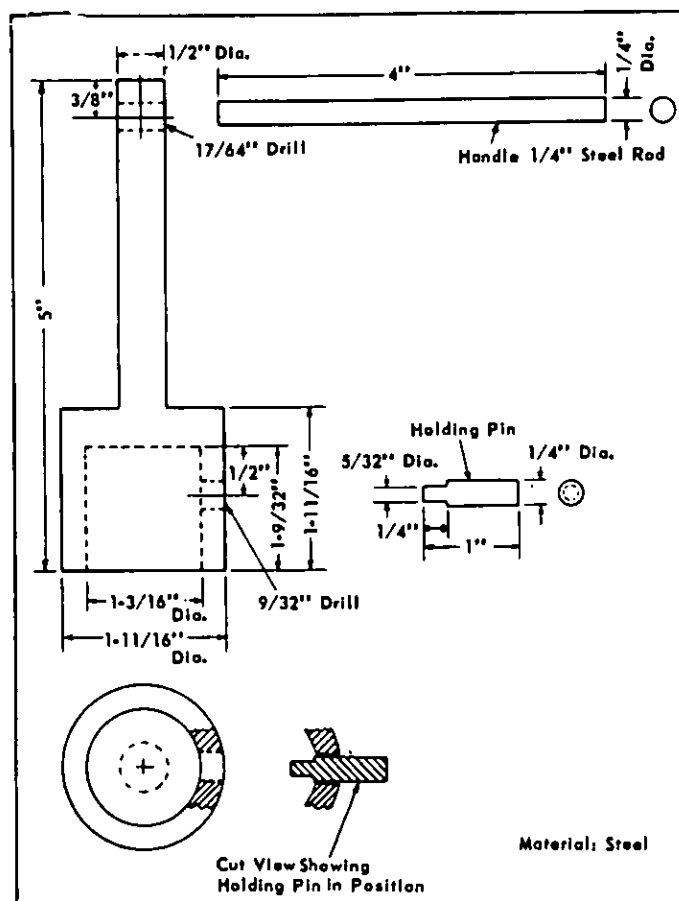
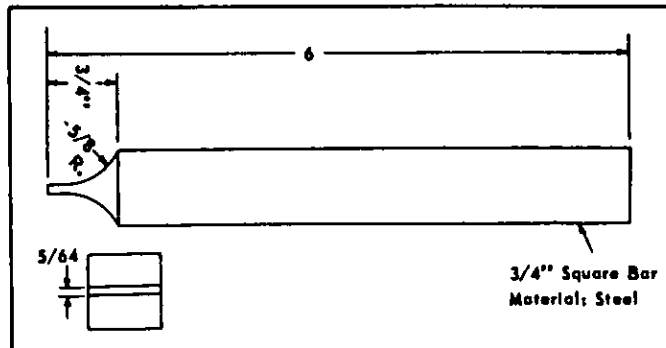

FIGURE 5 - MAGNET CORE REMOVAL TOOL
FIGURE 6 - VALVE SEAT REMOVAL TOOL
- a. Magnet Core Removal Tool used to assist in the removal and installation of the magnet core. Specifications for making this tool are shown in Figure 5.
- b. Valve Seat Removal Tool used to assist in the removal and installation of the valve seat. Specifications for making this tool are shown in Figure 6.
IMPORTANT: THE INFORMATION SHOWN IN THE DRAWINGS FOR MAKING TOOLS, FIGURE 5, AND FIGURE 6 ARE FURNISHED AS A CONVENIENCE. THE WESTINGHOUSE AIR BRAKE DIVISION OF AMERICAN STANDARD INC. SHALL HAVE NO RESPONSIBILITY FOR TOOLS WHICH THEY DO NOT MANUFACTURE.